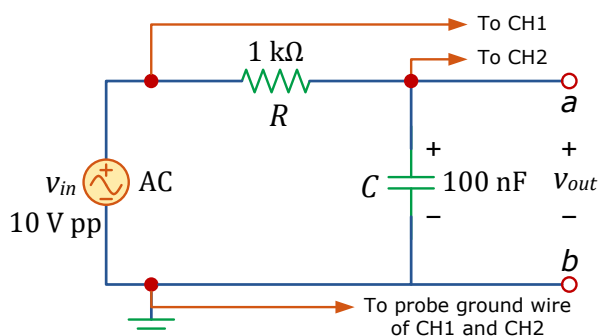

Figure 7.1: AC RC circuit for Pre-Lab 7.
- 3 Consider the RC circuit given in Figure 7.1. The input voltage v_{in} is a 10 V peak-to-peak sinusoidal with a frequency of 100 Hz. Draw the circuit in the phasor domain and calculate the impedance of the capacitor as well as output voltage v_{out} across terminals a and b , i.e., $v_{out} = |V_{out}| \cos(2\pi f + \angle V_{out})$.